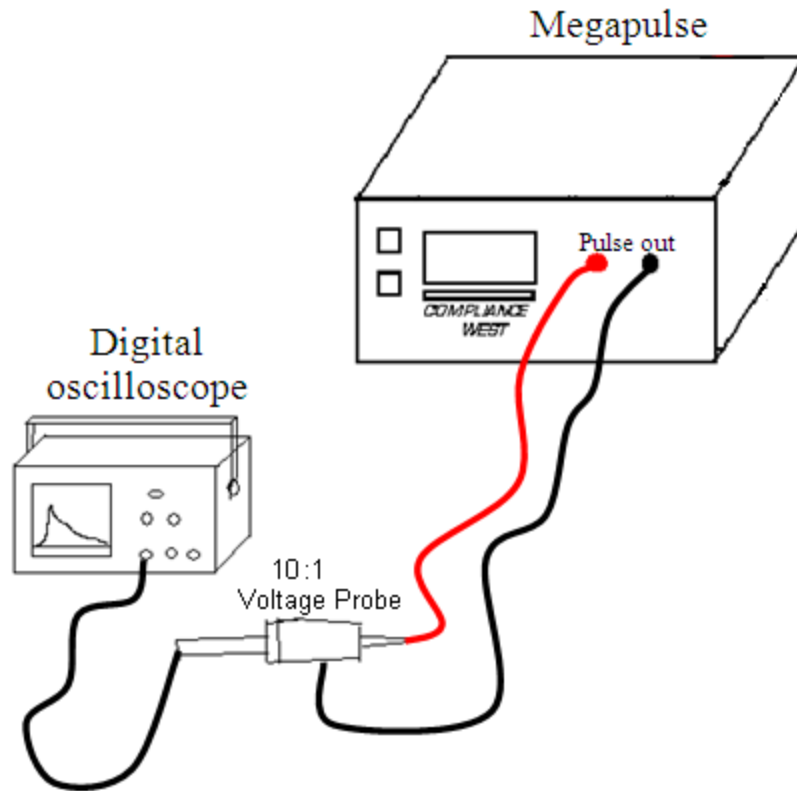

Figure 6. Waveform Measurement Setup.
3. Connect the ends of the test leads to an appropriate measuring instrument (typically an oscilloscope with a 10X probe). See **Figure 6** as an example.
4. Connect the **Vtest** and **B** Output jacks to an appropriate measuring instrument (typically an oscilloscope with a 10X voltage probe). See **Figure 6** as an example.